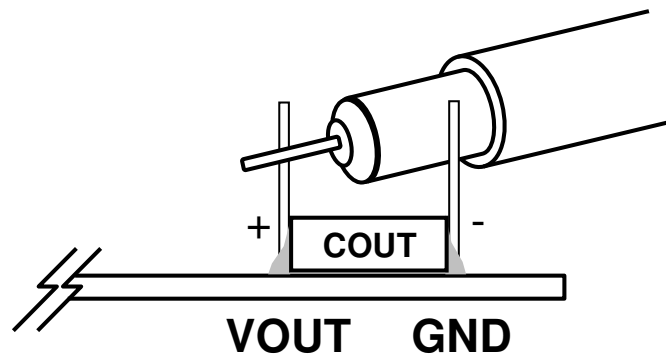

Figure 2. Measuring Input or Output Ripple
**NOTE:** When measuring the output voltage ripple, care must be taken to avoid a long ground lead on the oscilloscope probe. See Figure 2 for proper scope probe technique. Short, stiff leads should be soldered to the (+) and (-) terminals of an output capacitor. The probe's ground ring needs to touch the (-) lead and the probe tip needs to touch the (+) lead.